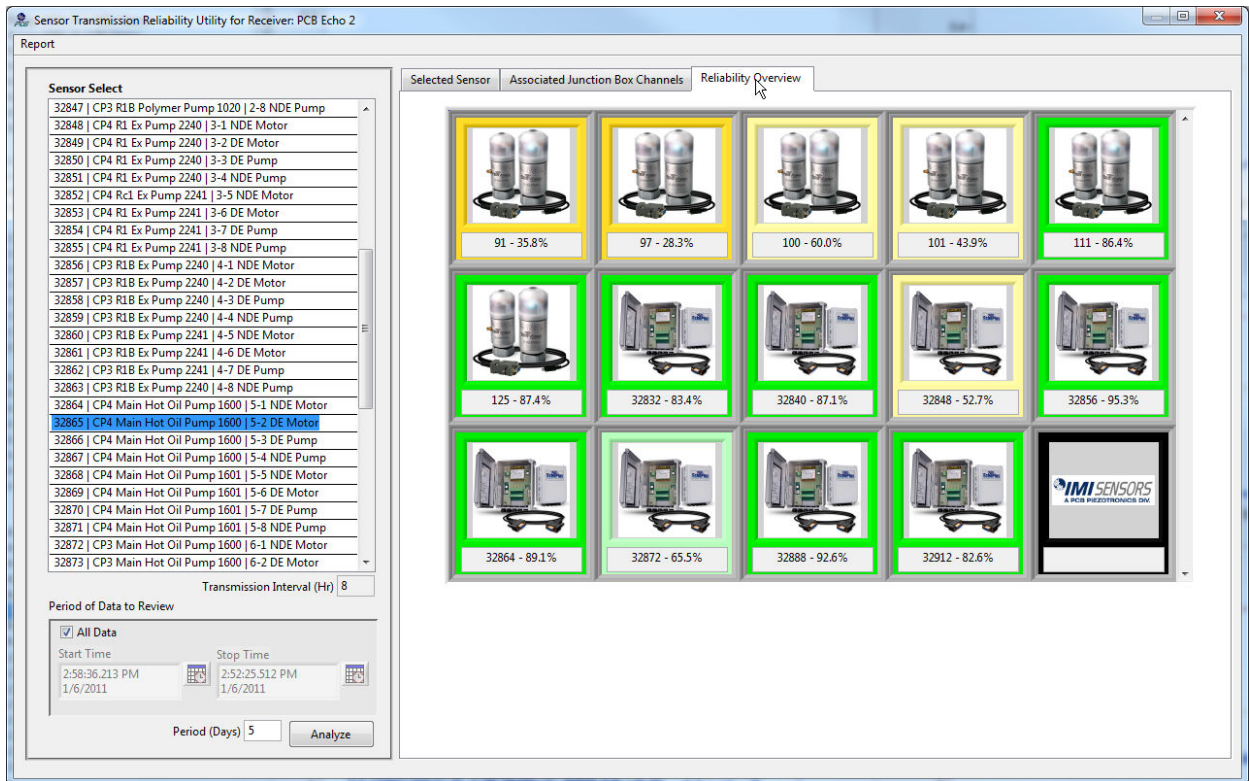

Figure 93 – Echo[®] Sensor Transmission Reliability Utility – Reliability Overview Tab
- **Reliability Overviews tab** (Figure 93) – This tab shows the overall reliability of every device assigned to the selected receiver. Each entry is an icon of either a junction box or a standalone sensor. Below each icon is a transmission reliability statistic for the time period analyzed. The number associated with each statistic is the sensor ID for that sensor. For junction boxes the 1st channel of the box is used. The color of the icon represents the reception quality at a glance in 20% steps. Bright green=>80%; Light Green=60-80%; Light Yellow=40-60%; Dark Yellow=20-40%; Red=<20%